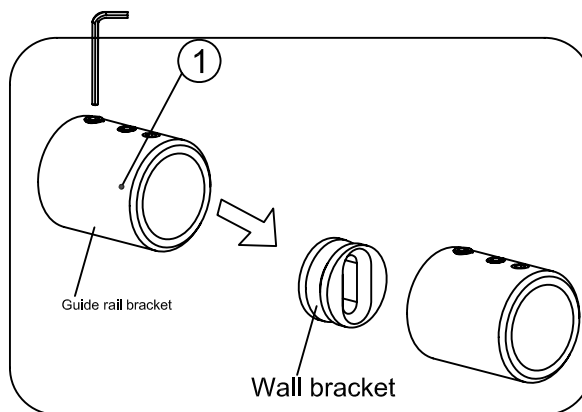

Fig 5
5.1. Loosen the screw on Guide Rail **Bracket (01)**, pull out the wall bracket. Please see **Fig 5** for details